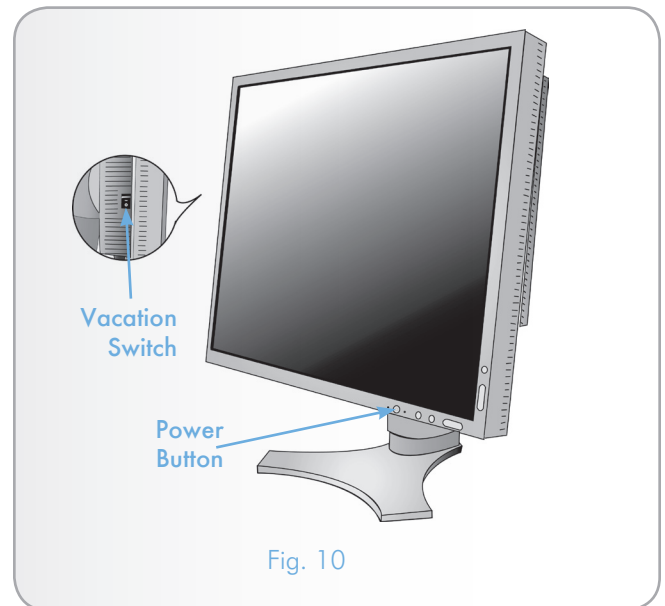

Fig. 10
9. The Vacation Switch on the left side of the monitor must be turned on in order to use the front power button. It is best to leave the Vacation Switch on all the time save for lengthy periods of inactivity. Use the front power button to turn on the monitor (Fig. 10) before starting the computer.